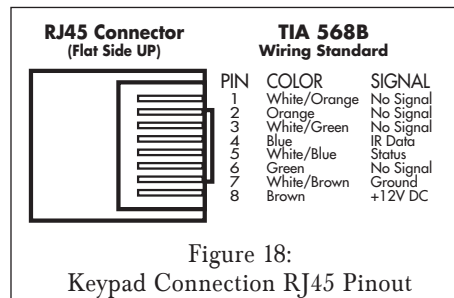

Figure 18:
2. Terminate each CAT5 cable with RJ45 connectors on each end. Follow the TIA 568B wiring standard (see *Figure 18*).